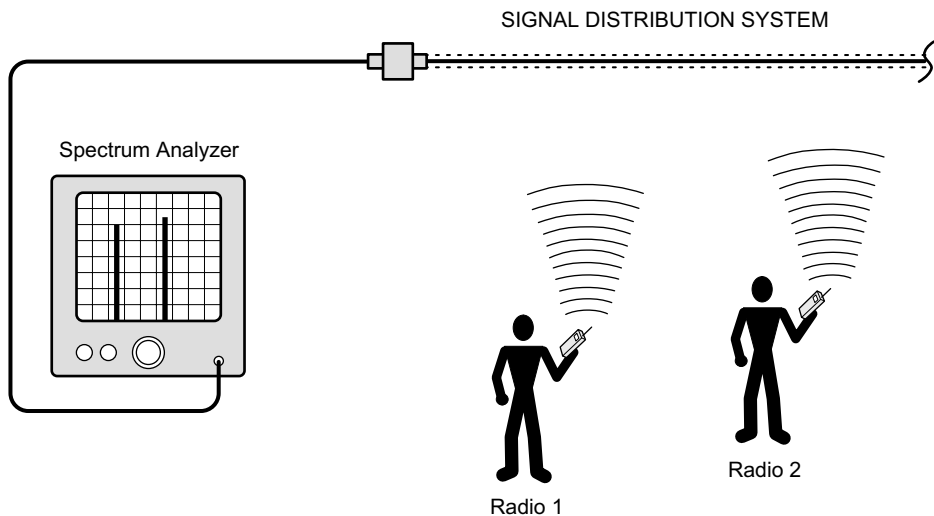

Figure 5: Typical test equipment setup for measuring input signal levels.
- 4) Connect the analyzer to the section of the signal distribution system that is going to serve as the input for the branch you want to observe (see **Figure 5**).